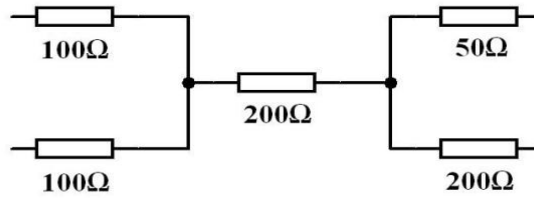

Figure 6
- c) Calculate the total resistance in **Figure 6**. Show all the necessary working in the space provided.